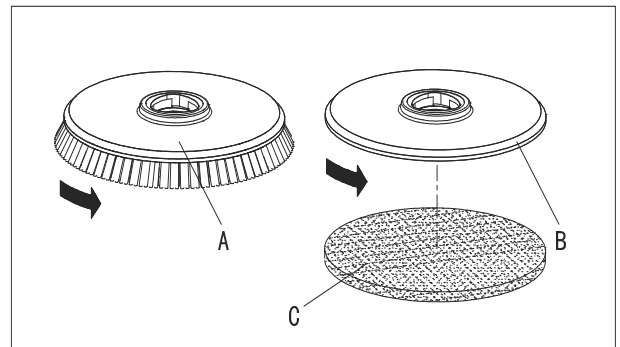

Figure 5
Install either the brush (A, Figure 5) or pad-holder (B and C, Figure 5) according to the type of floor to be cleaned.
1. Insert the ignition key (54) and turn it to "O".
2. Lift the deck by pressing the pedal (10).
3. If equipped, turn the speed adjuster (56) to idle by turning it counter-clockwise.
4. Place the brushes (A, Figure. 5) or the pad-holder (B) under the deck (21).
5. Lower the deck on the brushes/pad-holders by pressing the pedal (10).
6. Turn the ignition key (54) to "I".
7. Press the Brush/pad-holder and vacuum system switch (60).
8. Press one of the safe switch (50) to engage the brush/pad-holder, then release it. If necessary, repeat the procedure until the brushes/pad-holders are engaged.